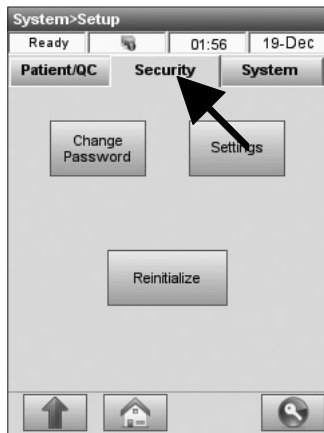

Fig. 3-43 Security
The OPTI CCA-TS2 has three types of security options (Fig. 3-43):
2. In the **<System Setup>** screen, press the **<Security>** tab (Fig. 3-43).